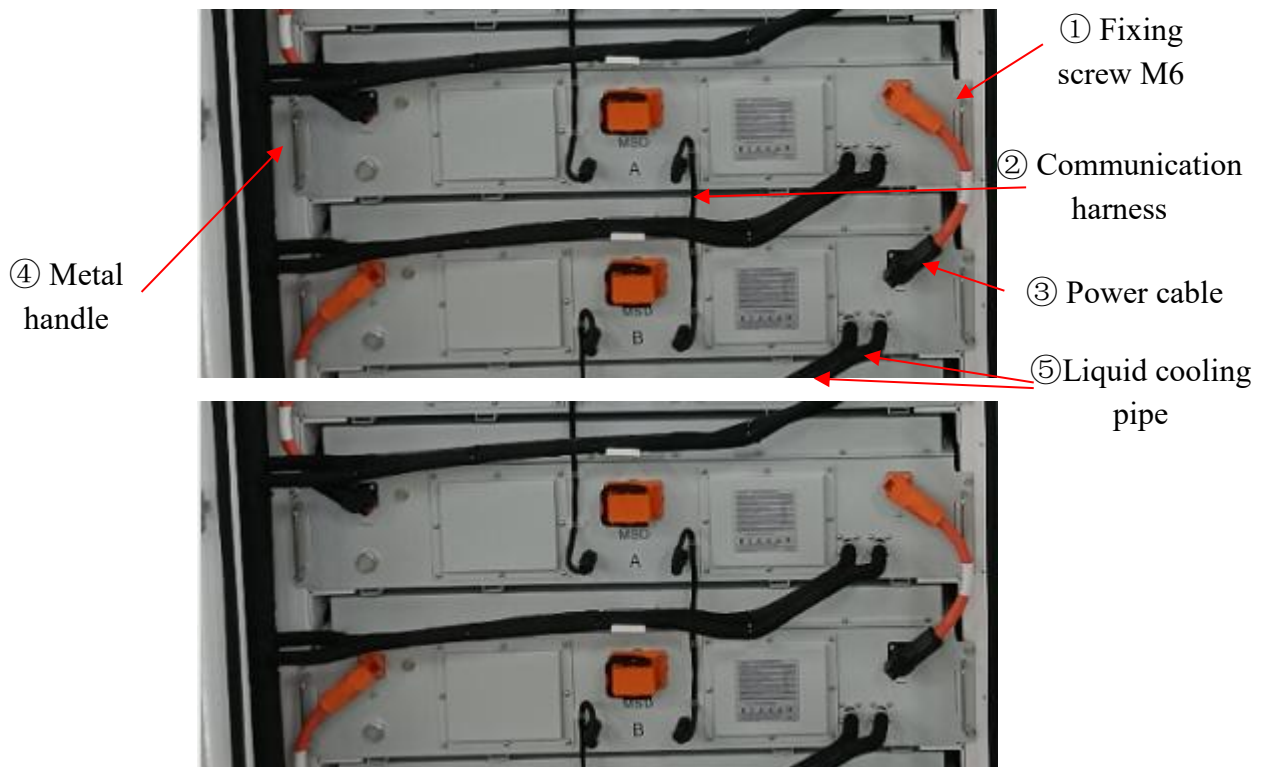

Fig.5.2 Battery module power and communication connection
- (1) Transport the new battery by trailer to the replacement battery attachment
- (2) Multiple people carry battery metal handle④, lift the battery and push into the battery rack.
- (3) Adjust the  $\phi 6$  socket torquee to  $5N \cdot m$ , and fasten the four fixing screw M6①
- (4) Connect the power cable③ according to Fig. 5.2.
- (5) Clean up the scene, organize the tools